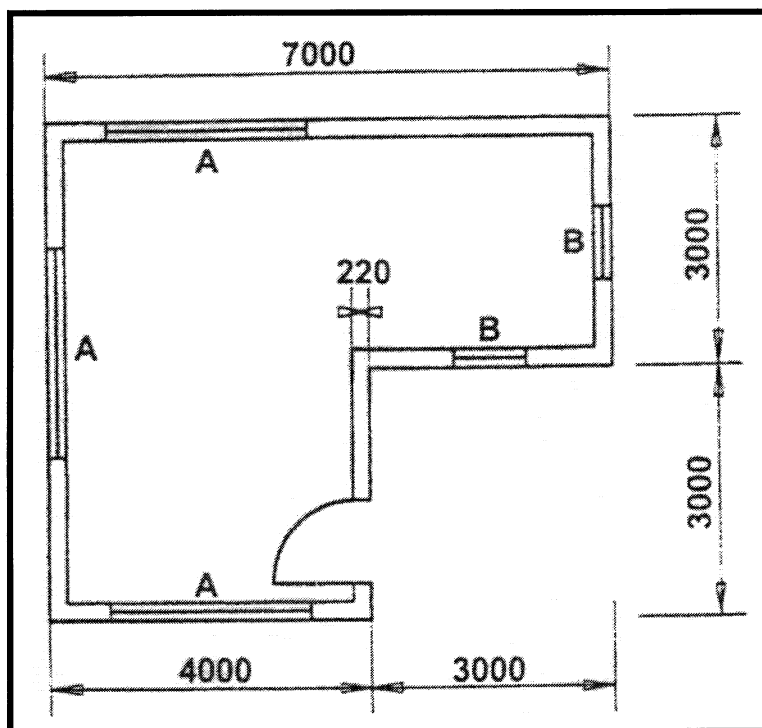

Figure 2
6.1 **Figure 2** below shows the plan of a building, which is to be erected.